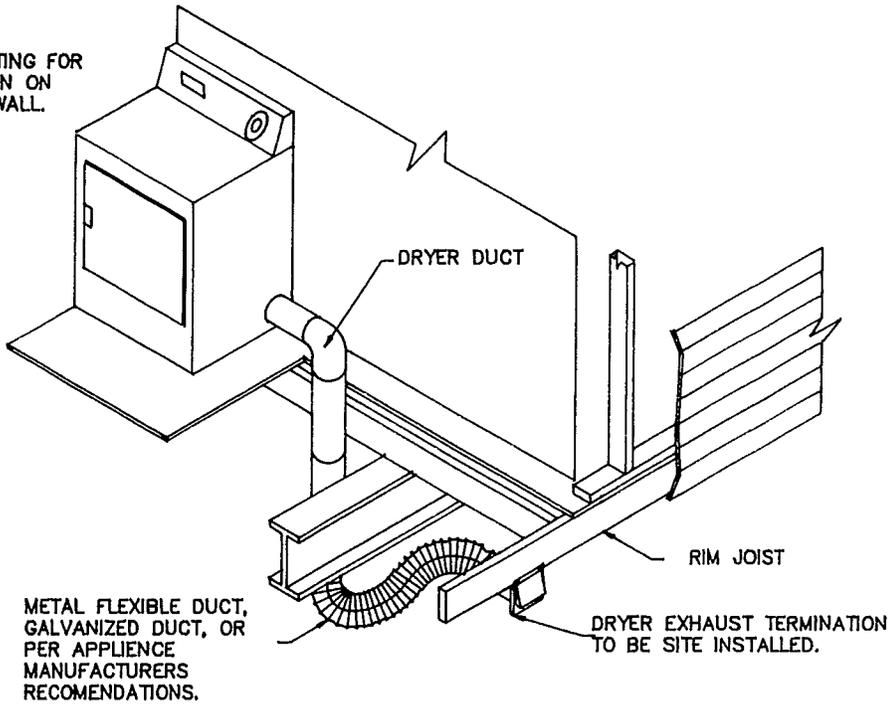

FIGURE 41
3. The exhaust system shall be completed on site as shown with materials provided by the owner. See figures 41 and 42.